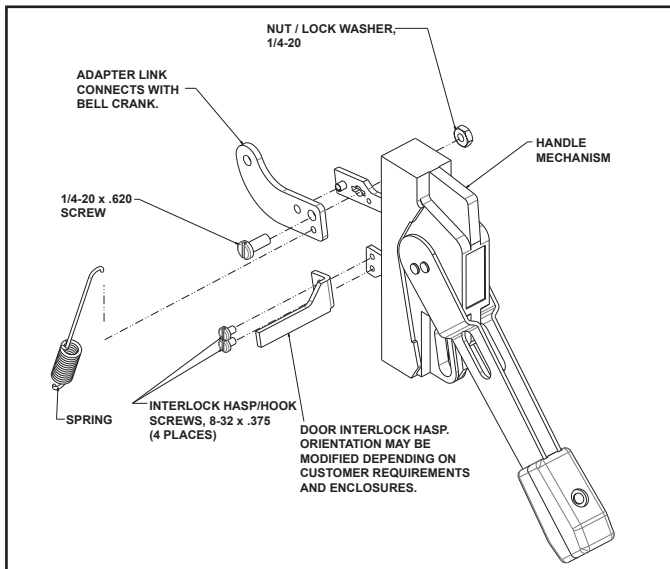

Fig. 1-2 Outer Handle Mechanism Assembly.
**See Fig. 1-2 for suggested orientation. Alternate orientations may be used according to application.**